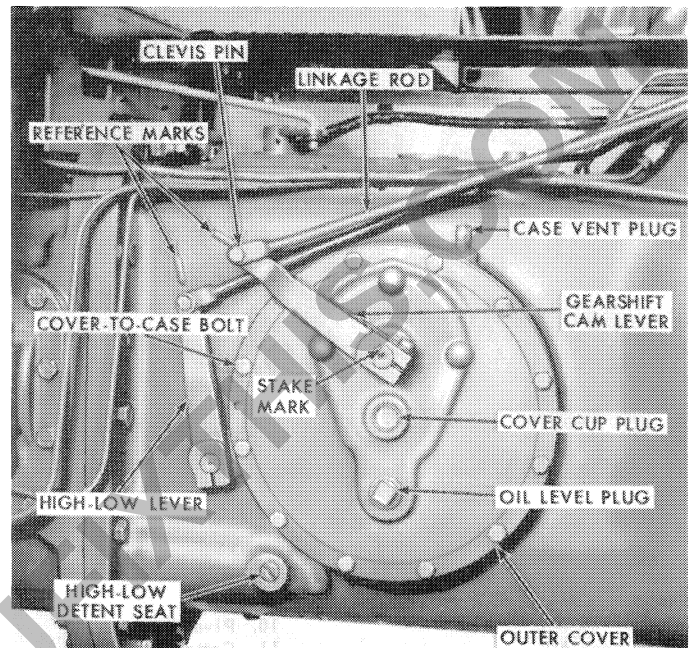

Figure 8
3. Disconnect the linkage rod from the gearshift cam lever, Figure 8, by removing the cotter pin and the clevis pin securing the rod to the lever.
7. Remove the high-low detent seat, Figure 8, and remove the gasket from the seat. Remove the spring and detent ball. Use a magnet to remove the ball if necessary.
8. **Splash Lubricated Transmissions:** Remove the case vent plug, Figure 8.